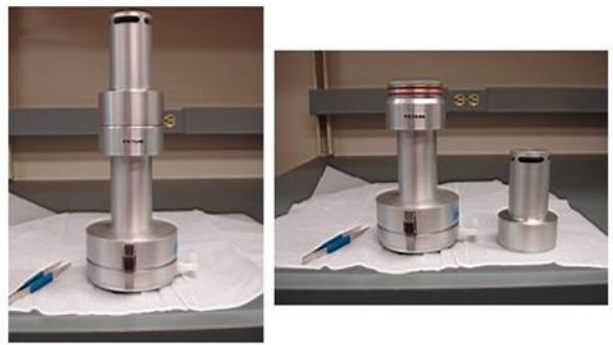

Figure 4 : a) Assemble Harvard Impactor, b) Section of the Harvard Impactor that must be taken apart to access impaction plate.
8. Completely disassemble the Harvard Impactor and clean all parts of the inside and outside with Kimwipes and alcohol (Figure 4, page 14). Use a separate small Kimwipe for each part.
impaction plate by twisting the widest cross-section of the Harvard Impactor body apart from one another (**Fig. 4**). Handle these plates by their edges, being careful to avoid touching the sintered metal centre.